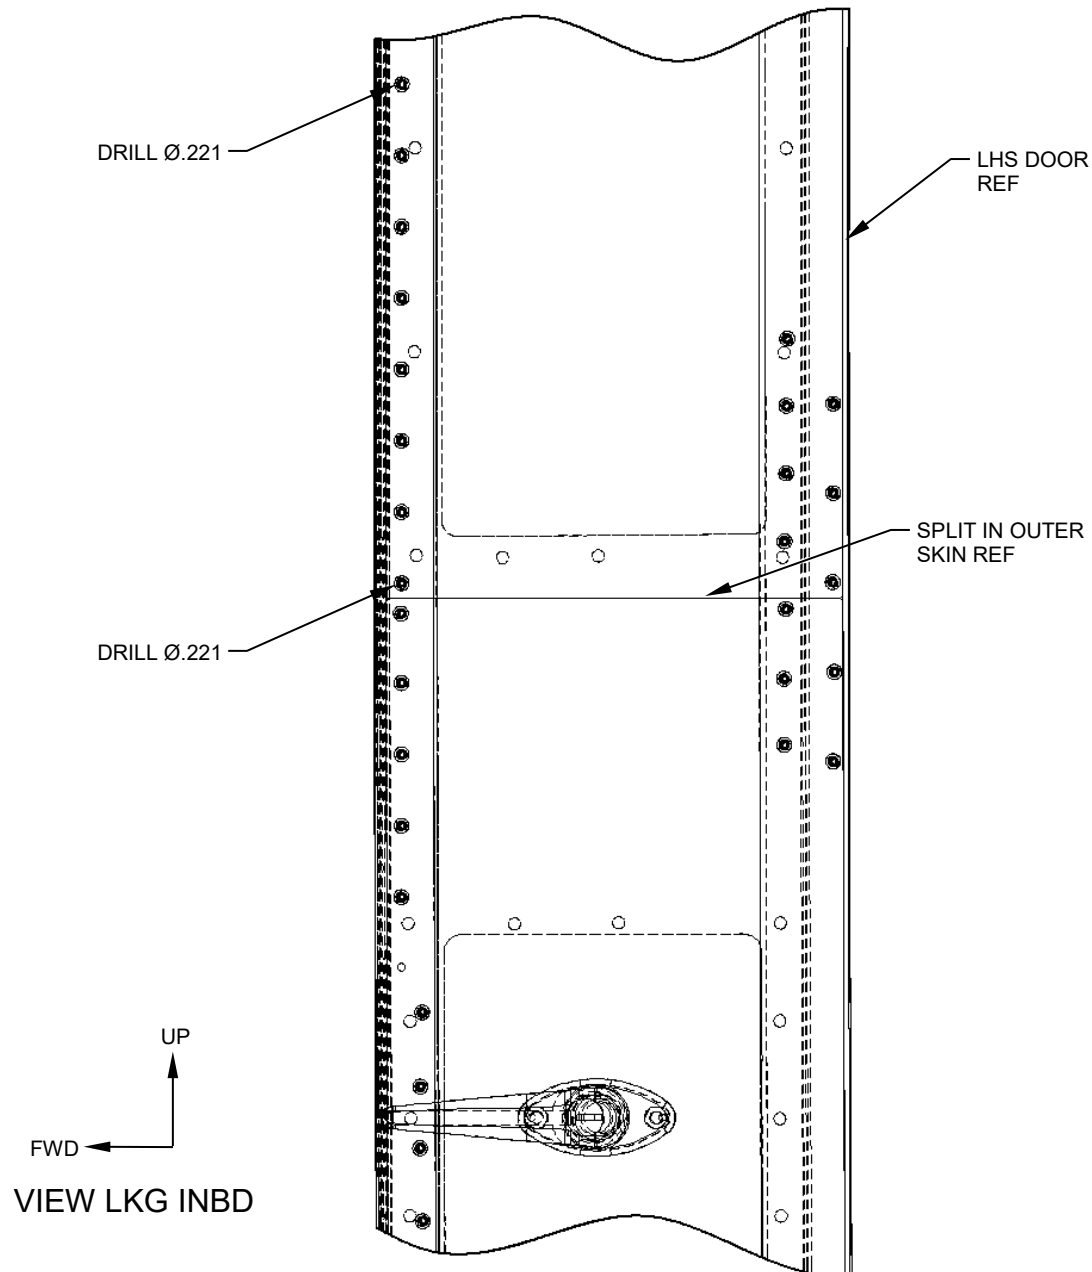

Figure 20
2. Drill out the indicated rivets, upsize the resultant holes to $\varnothing.221$ (#2). Reference Figure 20.